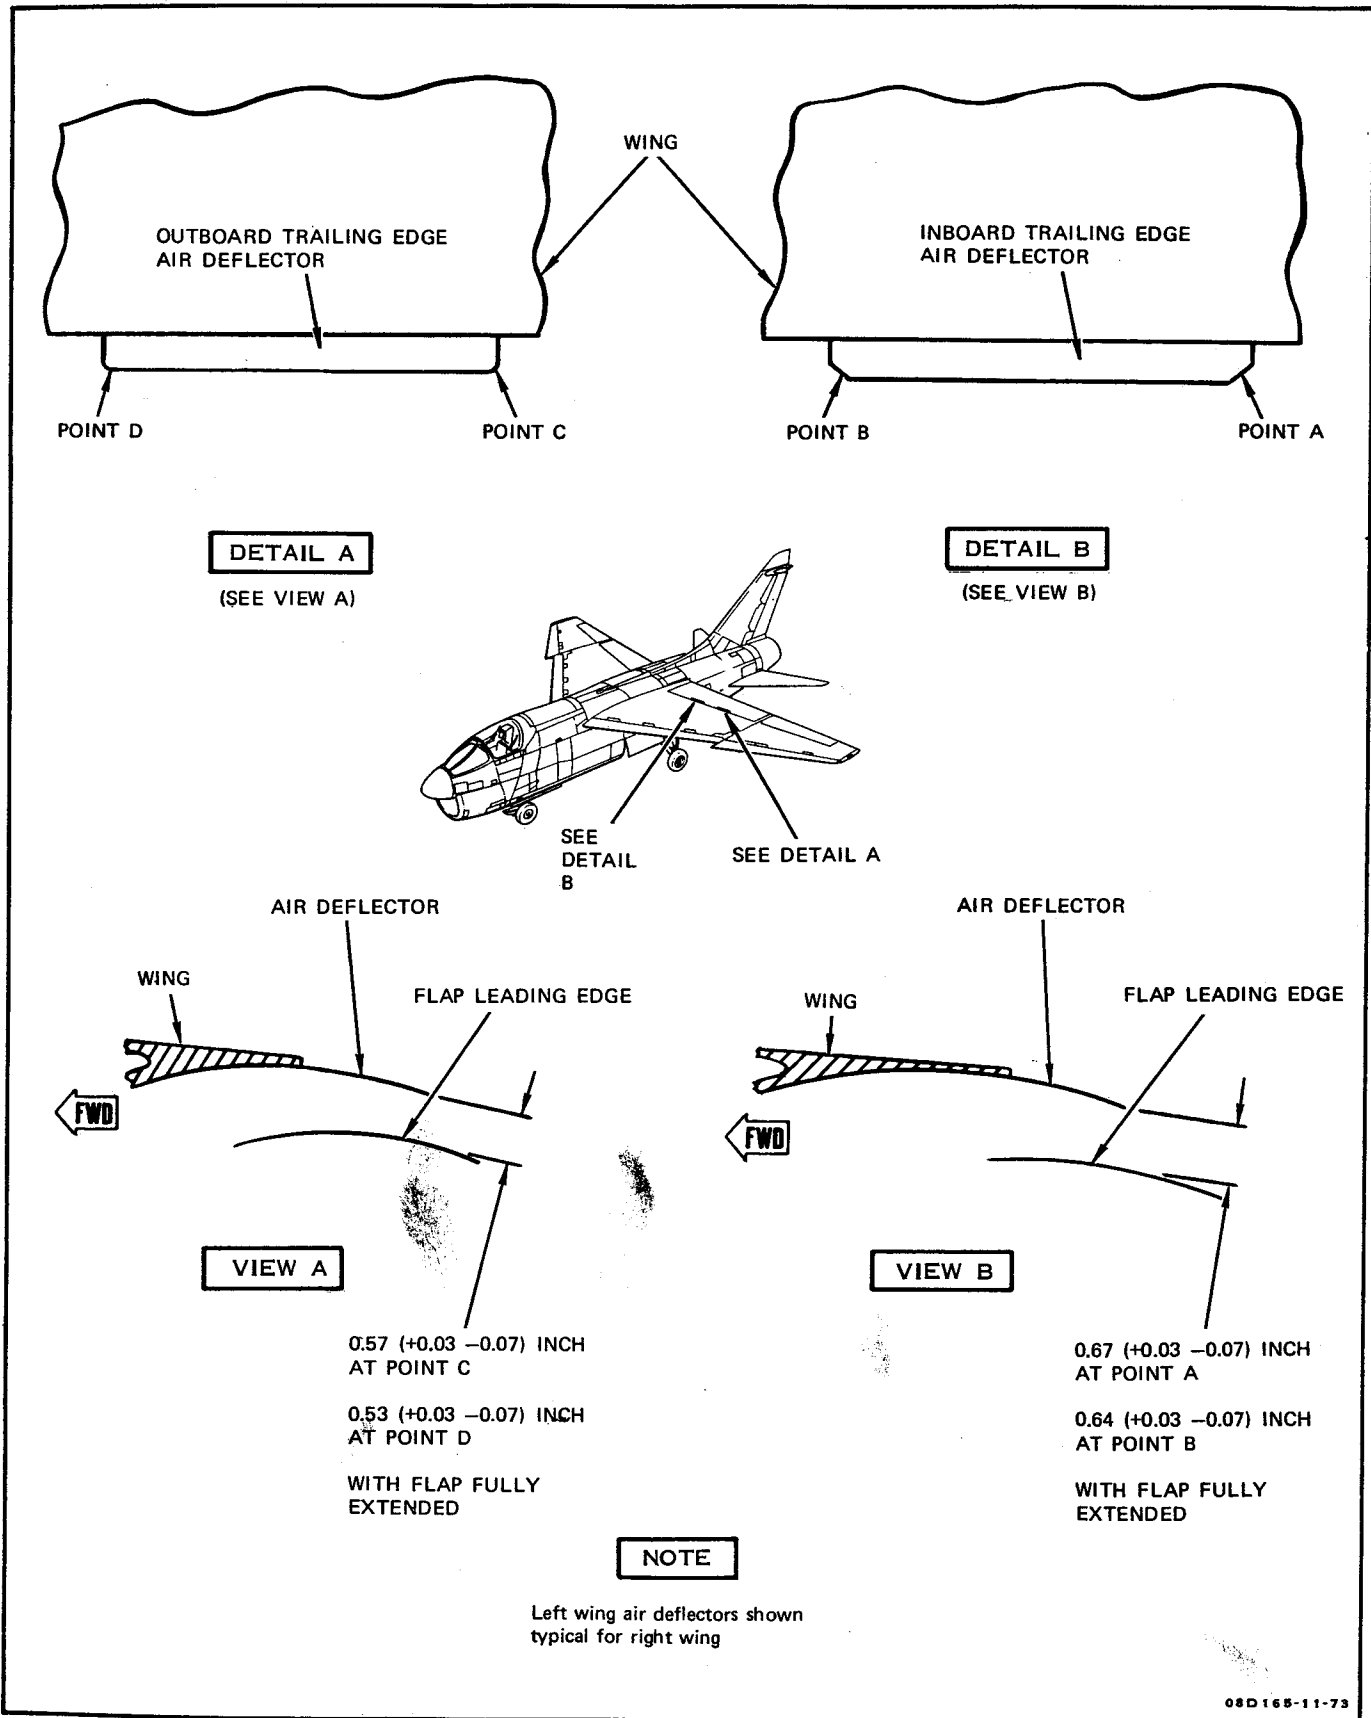

Figure 9-26. Trailing Edge Flap Air Deflector Clearance
u. Check for proper gap between trailing edge air deflector and leading edge of fully extended trailing edge flap (figure 9-26). If necessary, adjust gap to dimensions shown by bending deflectors with trailing edge flap deflector adjustment tool, Part No. 8035577.